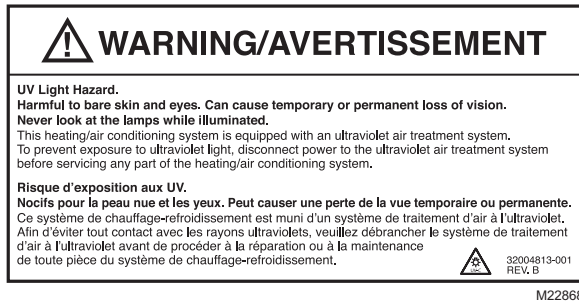

Fig. 8. HVAC maintenance UV safety label.
19. Adhere the HVAC maintenance UV warning label to the HVAC equipment (selected in step 17) such as the furnace, air cleaner or humidifier. See Fig. 8.